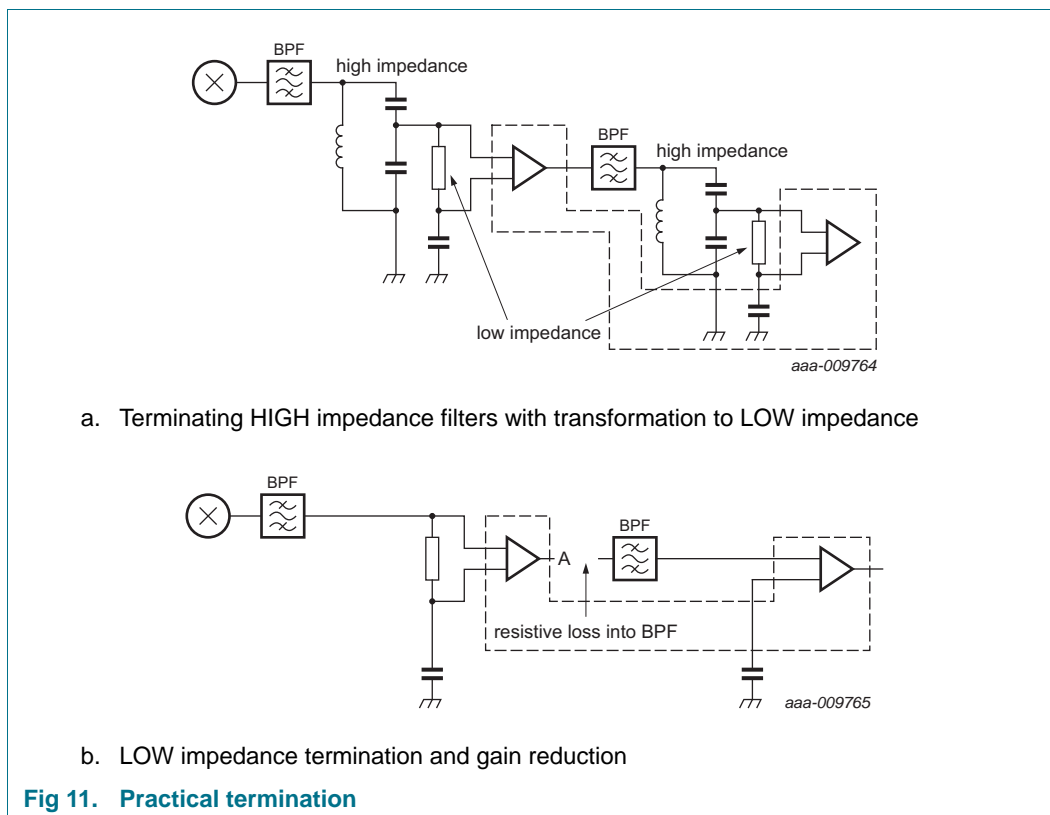
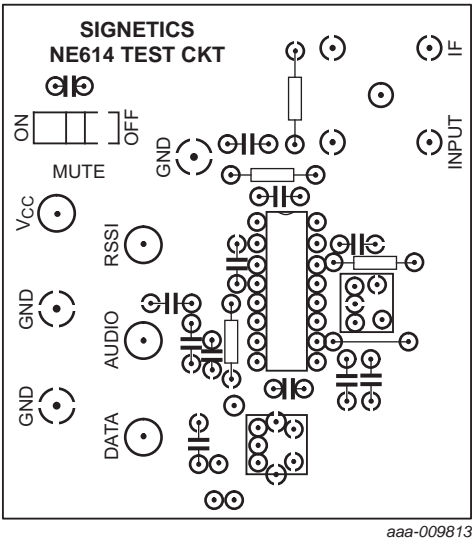

Fig 11. Practical termination
Fig 17. Print layout (viewed from the top)
3. Reduce the gain. Gain reduction can effectively be accomplished by adding attenuation between stages which can also lower the input impedance. Examples of impedance/gain adjustment are shown in Figure 11. Reduced gain results in reduced limiting sensitivity.
As the system IF increases, so must the attention to fields and strays. However, ground and supply loops cannot be overlooked, especially at lower frequencies. Even at 455 kHz, if the supply line is not decoupled, using the test layout in Figure 17, instability occurs. To decouple, use two high-quality RF capacitors, a 0.1 μF monolithic on the VCC pin, and a 6.8 μF tantalum on the supply line. An electrolytic is not an adequate substitute. At 10.7 MHz, a 1 μF tantalum has proven acceptable with this layout. Every layout must be evaluated on its own merit, but do not underestimate the importance of good supply bypass.
At 455 kHz, if the layout of Figure 17 or one substantially similar is used, ceramic filters can be connected directly to the input and between limiter stages with no special consideration. At frequencies above 2 MHz, some input impedance reduction is usually necessary. Figure 11 demonstrates a practical means.